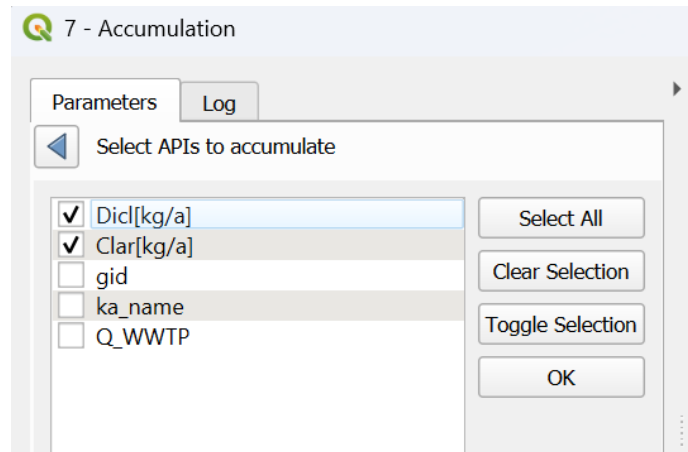

Figure 8. Configuration of Select APIs to accumulate.
3. In *Select APIs to accumulate*, click on fields containing the API load that you want to accumulate (Fig. 8).